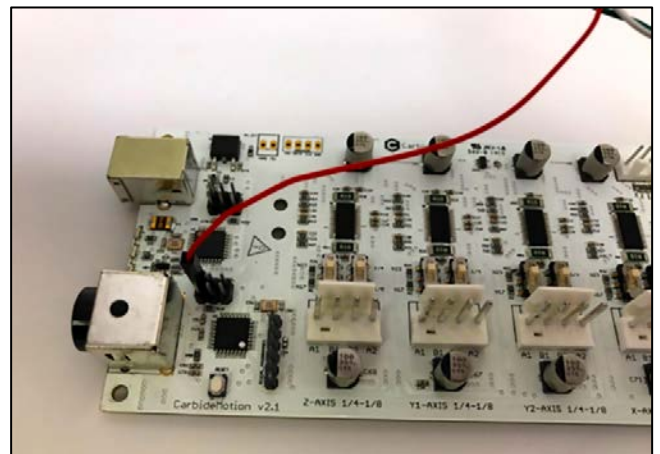

Figure 12
2. Connect the red wire (+5V) to the upper-left pin on the *AVR Programming* label. See **Fig. 12**.